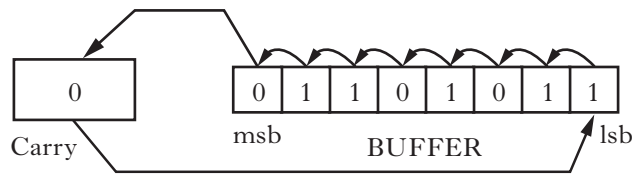

Figure Q5
5. A student is experimenting with serial transfer for data logging using a microcontroller. The basic principle uses the **Carry Bit** of the Status Register to read an 8-bit value into a register file as shown in Figure Q5.